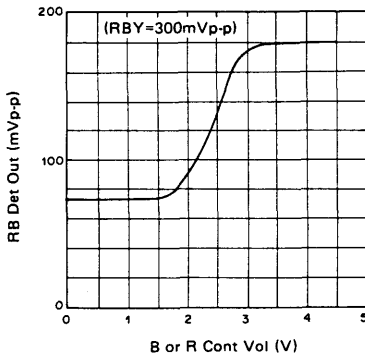

Fig. 3
- [3] B or R control characteristics (Fig. 3)